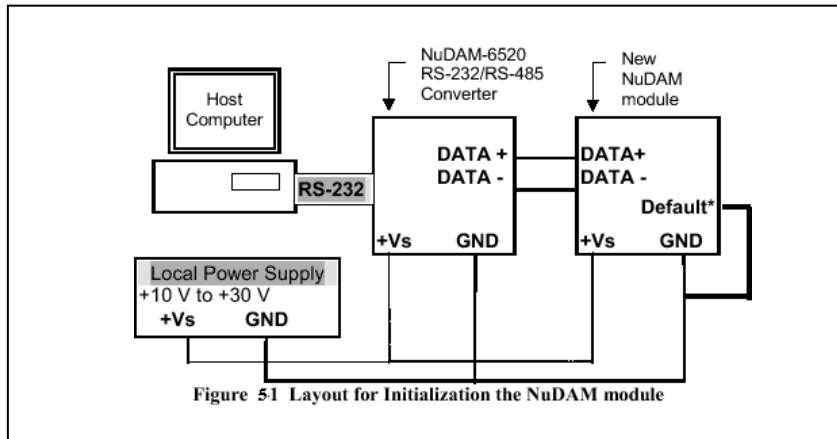

Figure 2-12 Wiring for NuDAM be in default state
2. Connect a brand new NuDAM module with the RS-485. Set the module in *Default State* by shorting the **DEFAULT*** pin. Refer to Figure 2-12 for detailed wiring.